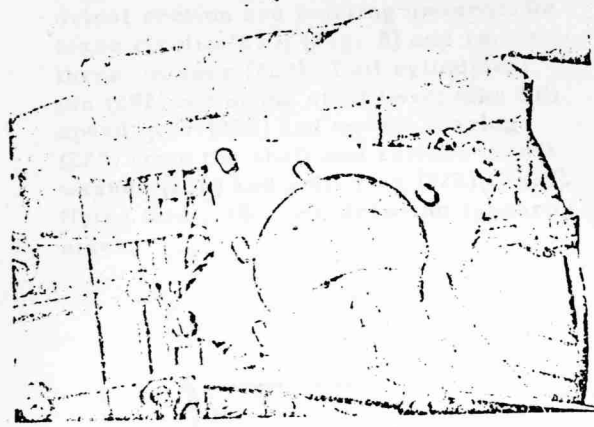

Fig. 3
3. Unscrew nuts (920) on left and right flange (918 and 908). With the aid of two mounting bars press both flanges evenly out of the housing bore (Fig. 2). Withdraw one taper roller bearing (910) from the housing, using tool set . 15. , . 16. and . 17. (Fig. 3). Remove differential together with the crown wheel from the main housing.